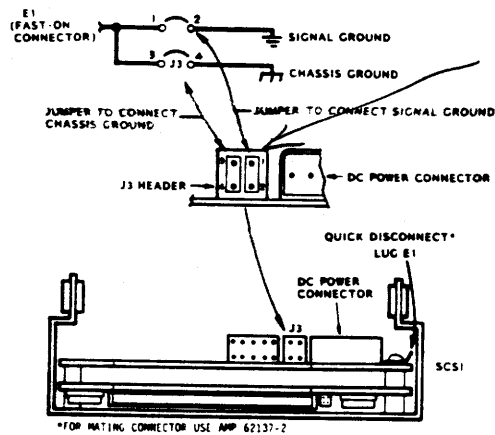

Figure 3.
- [5] See figure 3. NORSK DATA HAS BOTH JUMPERS INSTALLED.